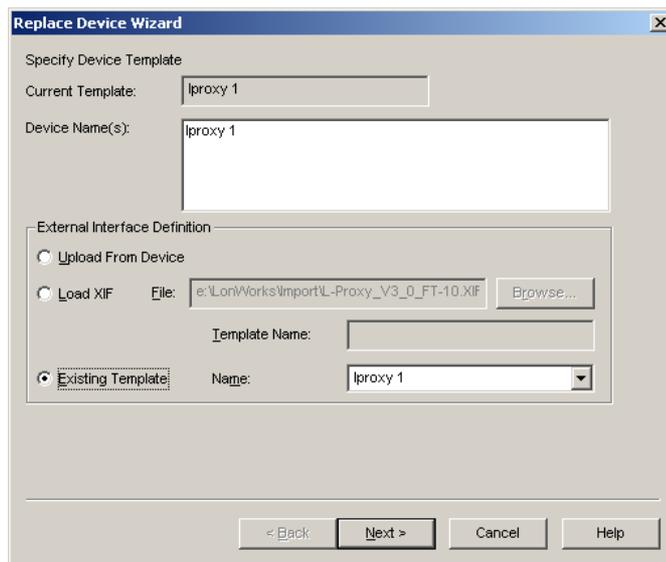

Figure 95: LonMaker replace device wizard.
- Select **Commissioning** → **Replace...** This opens the LonMaker **Replace Device Wizard** as shown in Figure 95.